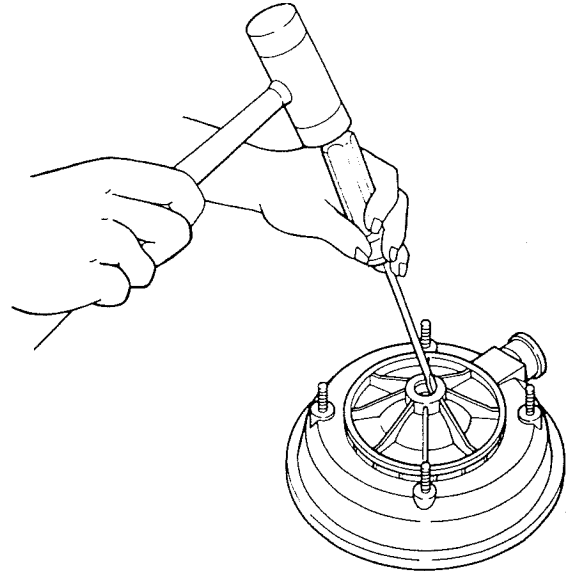

Figure 24—Tap Out Seal
4. Place pump body half face down on flat surface and tap out stationary half of seal (see Figure 24).